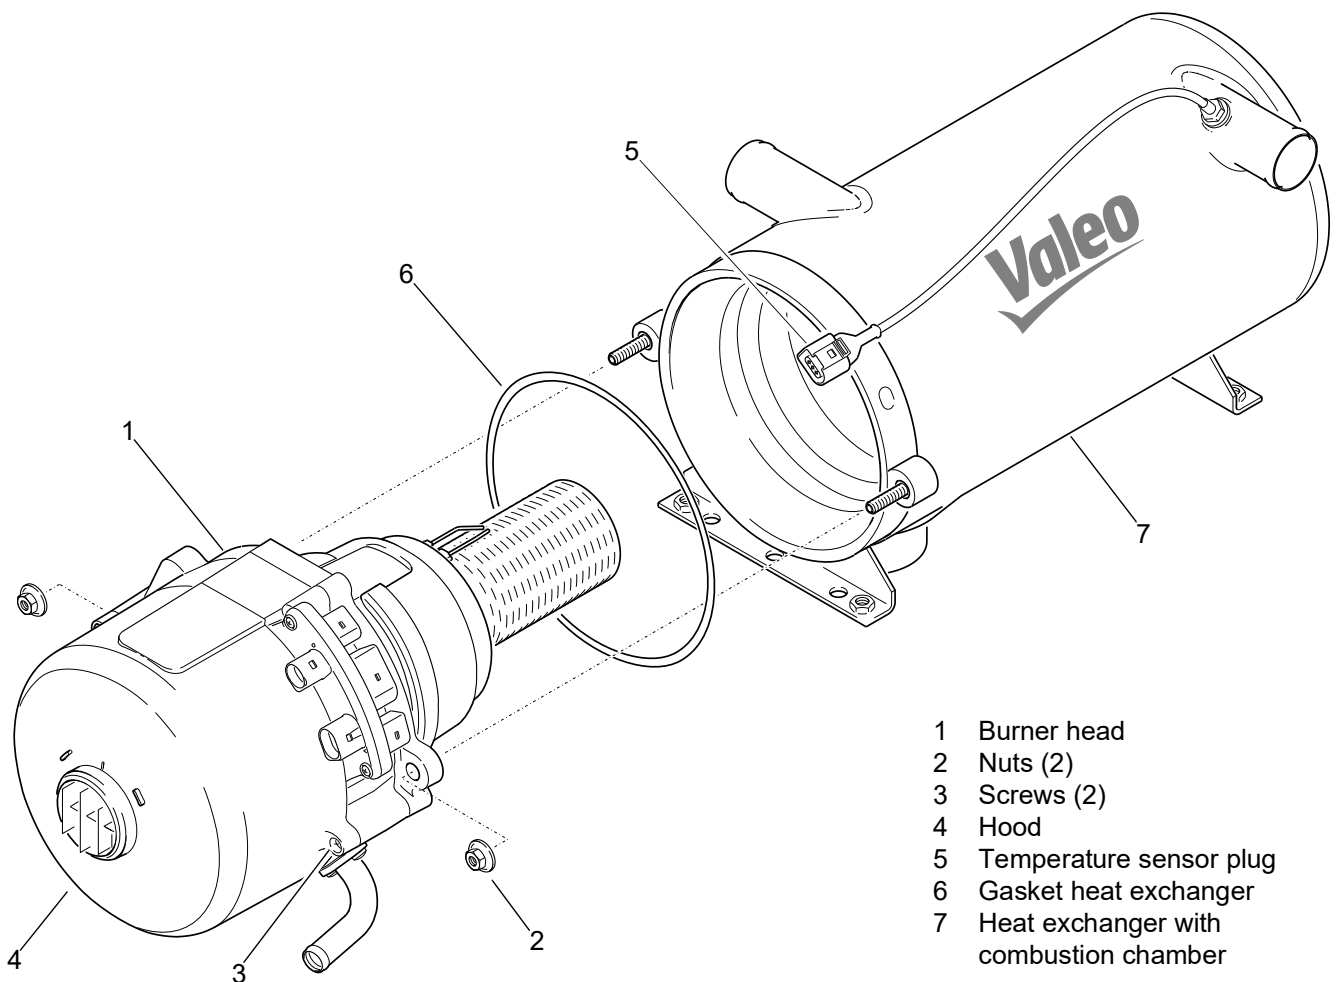

Fig. 802 Burner head / hood removal and installation
2. Disconnect the temperature sensor plug (5, Fig. 802).
2. Tighten temperature sensor (1) with $8 \text{ Nm} \pm 0.5 \text{ Nm}$.
3. Connect temperature sensor plug (5, Fig. 802).
2. Loosen screws (3, Fig. 802).
3. Remove hood (4).
1. Place hood (4, Fig. 802) into installation position. Ensure center alignment and proper fit.
2. Insert screws (3) and tighten with 2 Nm + 0.5 Nm.
5. Unscrew nuts (2).
6. Remove burner head (1).
1. Bring burner head (1, Fig. 802) together with a new gasket ring (6) into assembly position. Ensure center alignment and correct fit of the gasket.
2. Place nuts (2) and alternately tighten them slightly.
3. Tighten nuts (2) with 7.5 + 1 Nm and apply screw locking paint.
6. Reconnect the temperature sensor plug (5).
4. Disconnect the temperature sensor plug "T" (5, Fig. 802).
3. Plug the ZF module plug (8) and the fan motor plug (2) into the control device (5).
5. Plug in the temperature sensor plug „T“ (5, Fig. 802).